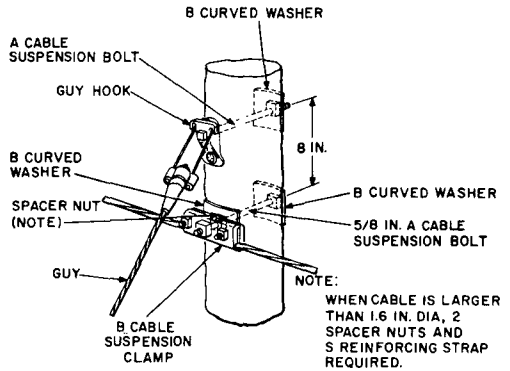

Fig. 16—6M or 6.6M Suspension Strand—Pull Less Than 10 Feet
10.02 Suspension strand shall be attached to poles as described in Tables A and B and as illustrated in Fig. 16 through 24. These illustrations also show the minimum distance between the attachment and the top of poles which carry telephone attachments only.